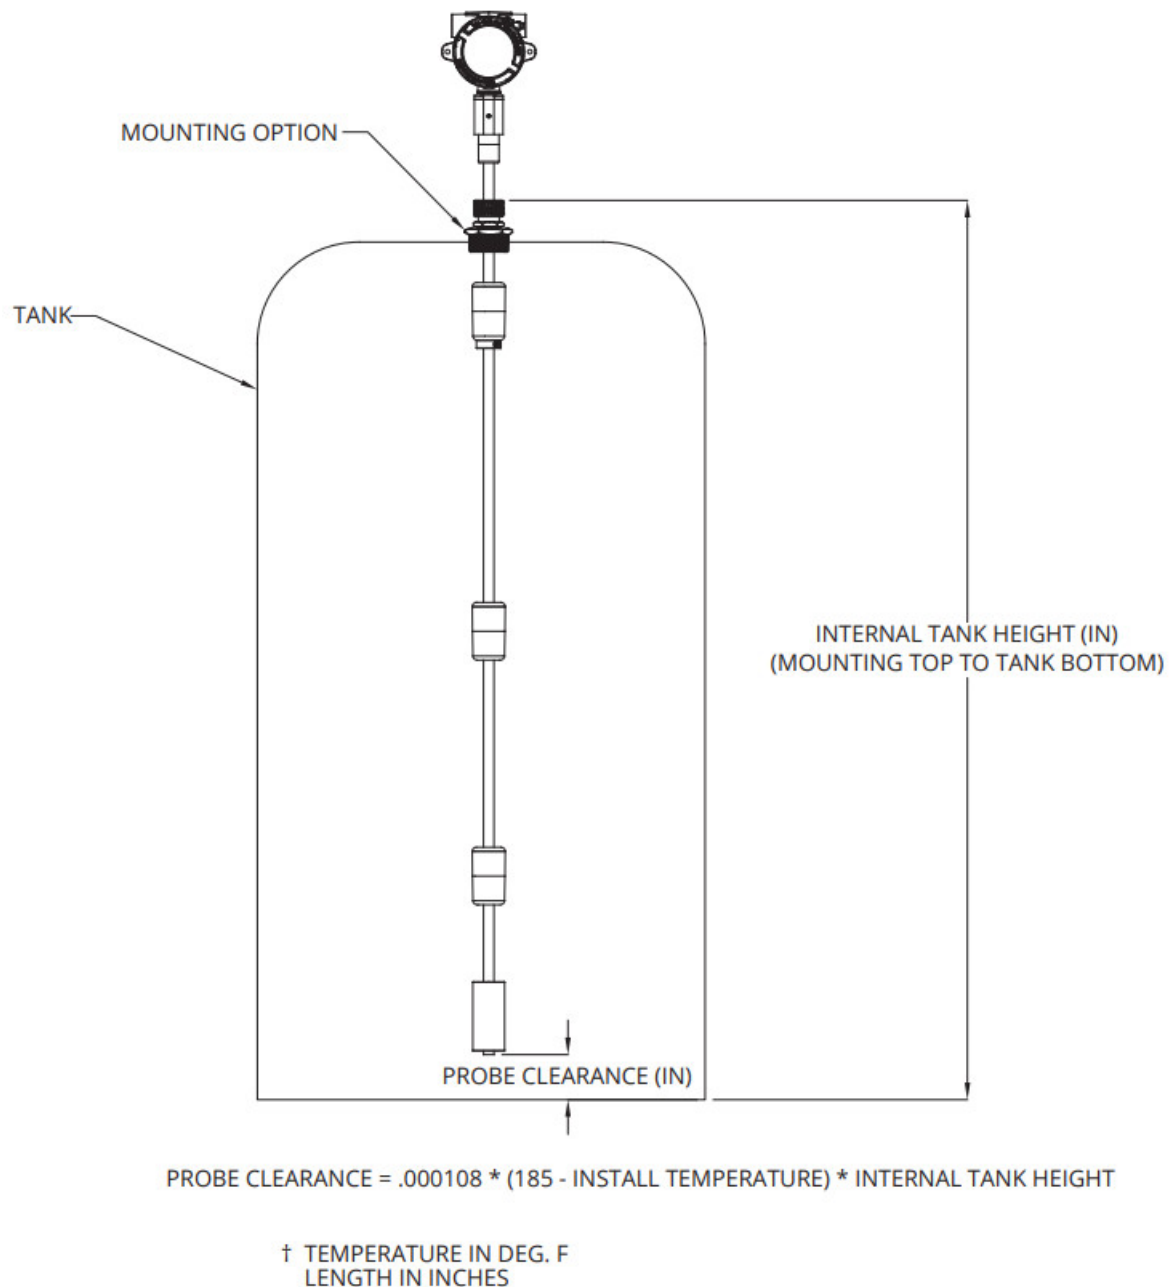

Figure 7.1
Prior to installing a PVDF-stem MPXI-F, the interior, mid-column temperature of the tank must be measured to determine the amount of clearance needed at the bottom of the probe for thermal expansion. See Figure 7.1.
3. Use a formula in Figure 7.1 to determine the necessary clearance from the bottom of the probe to the interior tank bottom.